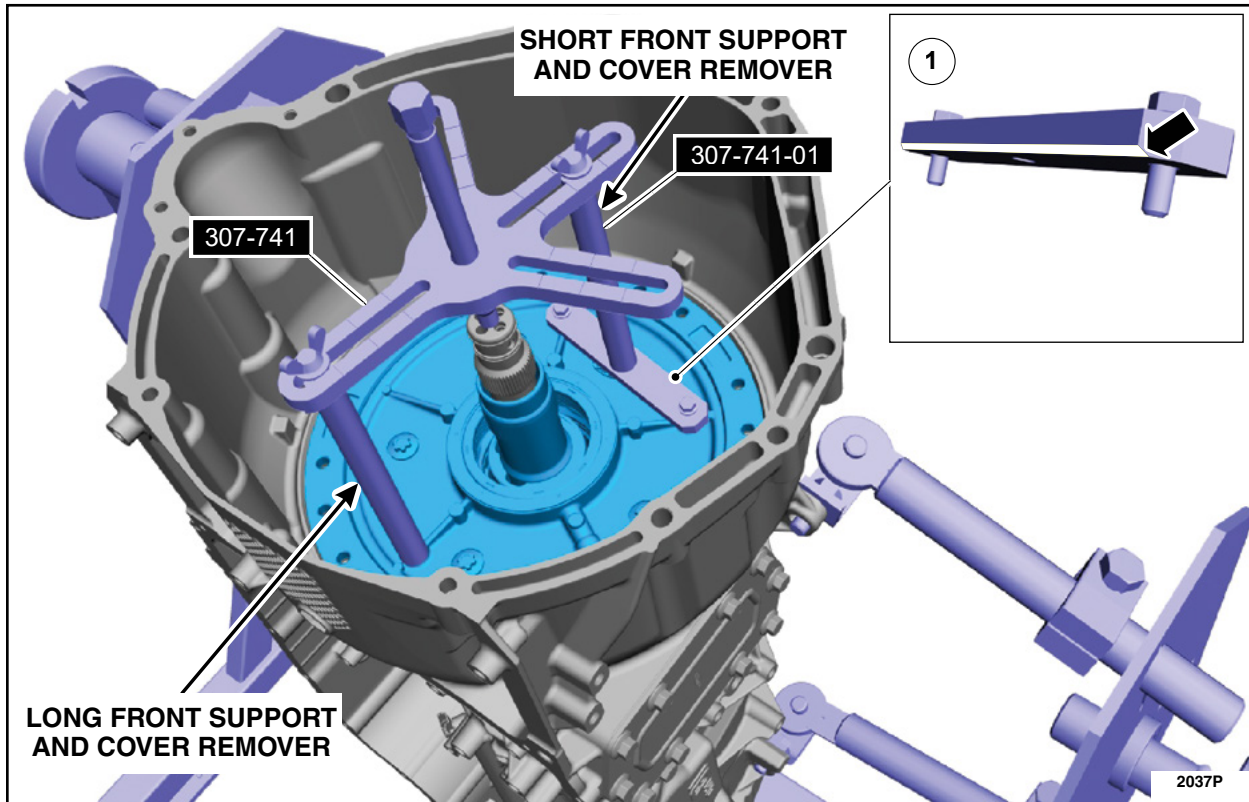

FIGURE 8
11. Using special tool 307-741 and 307-741-01, separate the front support assembly from the transmission case and remove the final support assembly. Remove special tools 307-741 and 307-741-01. See Figure 8.